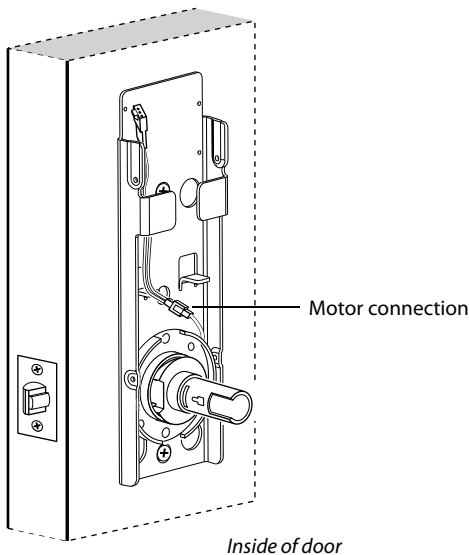

Figure 15 Making the motor connection
- 1 From the inside of the door, connect the motor connector from the chassis to its mating connector on the wire harness, as shown in Figure 15.